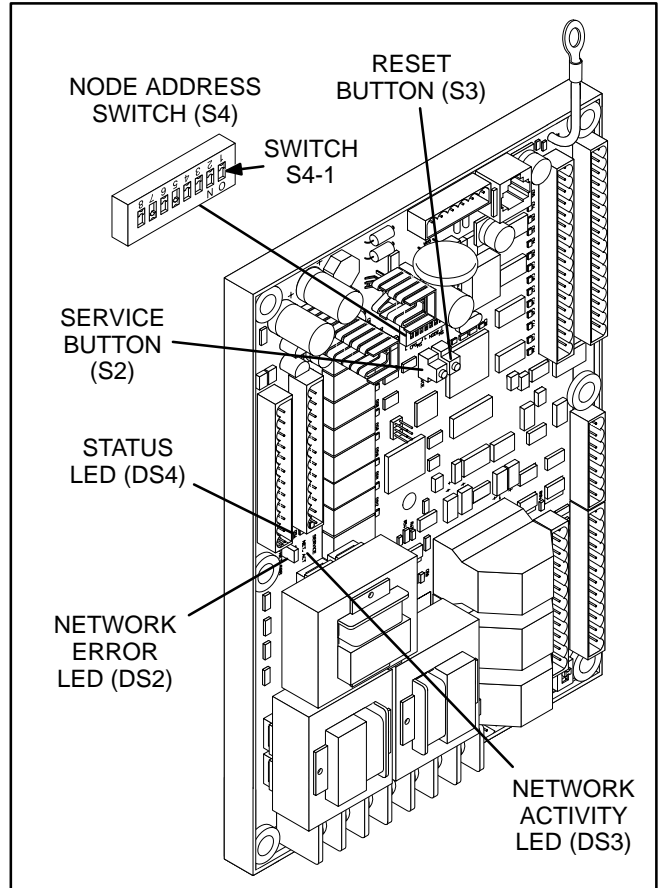

FIGURE 4. NODE ADDRESS SWITCH
Each node on a self-installed network must have a unique address. Switches 1 through 4 of switch S4 are used to set the *Node Address* (see Figure 4). The default node address is 0001, which is a “STATUS” LED pulse rate of 1.
4. Press and hold the *Service* button (S2) (see Figure 4) for approximately two seconds until the *Status* LED (DS4) begins flashing.
To verify the genset has installed itself properly and is bound to the ATS, disconnect the twisted-pair data cable at J30. The “Network Error” LED (DS2) (see Figure 4) should turn on (red) within 10 seconds. This indicates communications have failed and that the device was properly bound.